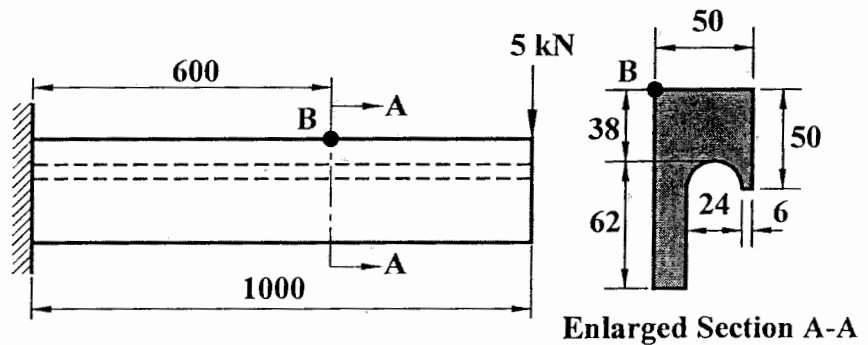

Fig. 1
3. A straight prismatic beam is loaded as shown in Fig. 1. The line of action of the load is vertical and passes through the centroid of the cross section of the beam. Find the neutral axis in the section A-A and compute the normal stress at the point B located as shown in Fig. 1. All dimensions in Fig. 1 are in mm. (2+3)